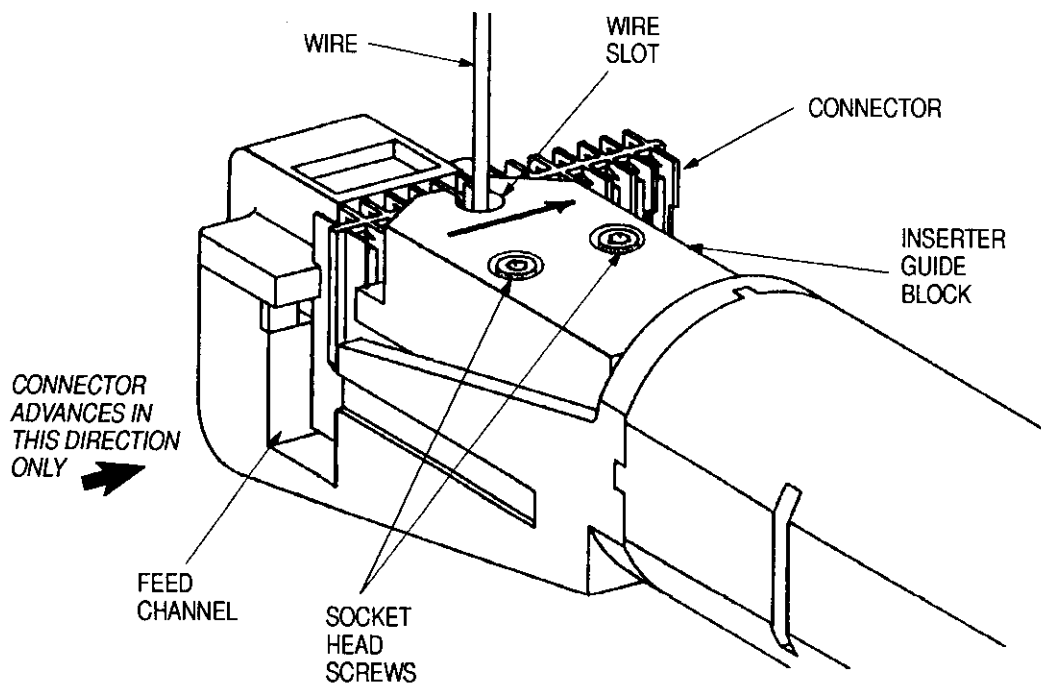

Figure 4
4. TERMINATION PROCEDURE (Figure 4)
6. MAINTENANCE (Figure 4)